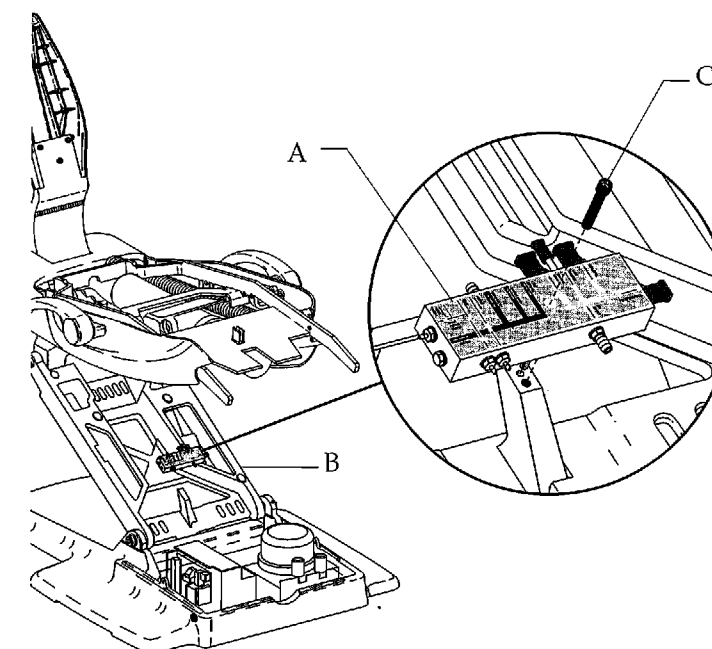

Figure 14. Attaching the chair air/water manifold. (A) chair air/water manifold; (B) chair lift arm; (C) mounting screw
3. Secure the manifold with the mounting screw (see Figure 14).